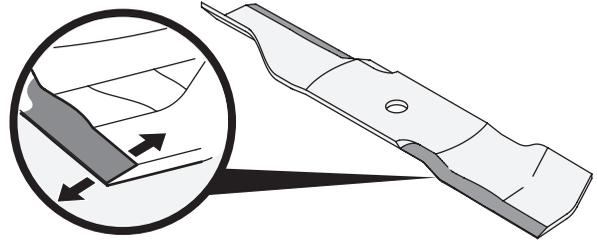

Figure 46
3. To properly sharpen the cutting blades, remove equal amounts of metal from both ends of the blades along the cutting edges, parallel to the trailing edge, at a 25°-30° angle. Always grind each cutting blade edge equally to maintain proper blade balance (Figure 46).